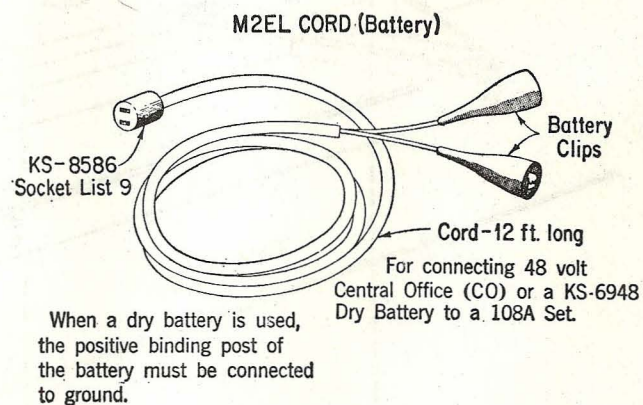

Fig. 4
4.02 M2EL Cord: This cord is illustrated in Fig. 4.